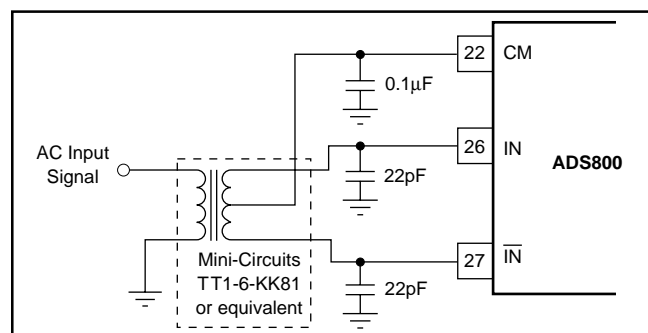

FIGURE 5. AC-Coupled Single-Ended to Differential Drive Circuit Using a Transformer.
The ADS800 has a differential input with a common-mode of +2.25V. For AC-coupled applications, the simplest way to create this differential input is to drive the primary winding of a transformer with a single-ended input. A differential output is created on the secondary if the center tap is tied to the common-mode voltage of +2.25V, as per Figure 5. This transformer-coupled input arrangement provides good high-frequency AC performance. It is important to select a transformer that gives low distortion and does not exhibit core saturation at full-scale voltage levels. Since the transformer does not appreciably load the ladder, there is no need to buffer the Common-Mode (CM) output in this instance. In general, it is advisable to keep the current draw from the CM output pin below 0.5mA to avoid nonlinearity in the internal reference ladder. A FET input operational amplifier such as the OPA130 can provide a buffered reference for driving external circuitry. The analog IN and  $\overline{\text{IN}}$  inputs should be bypassed with 22pF capacitors to minimize track-and-hold glitches and to improve high input frequency performance.